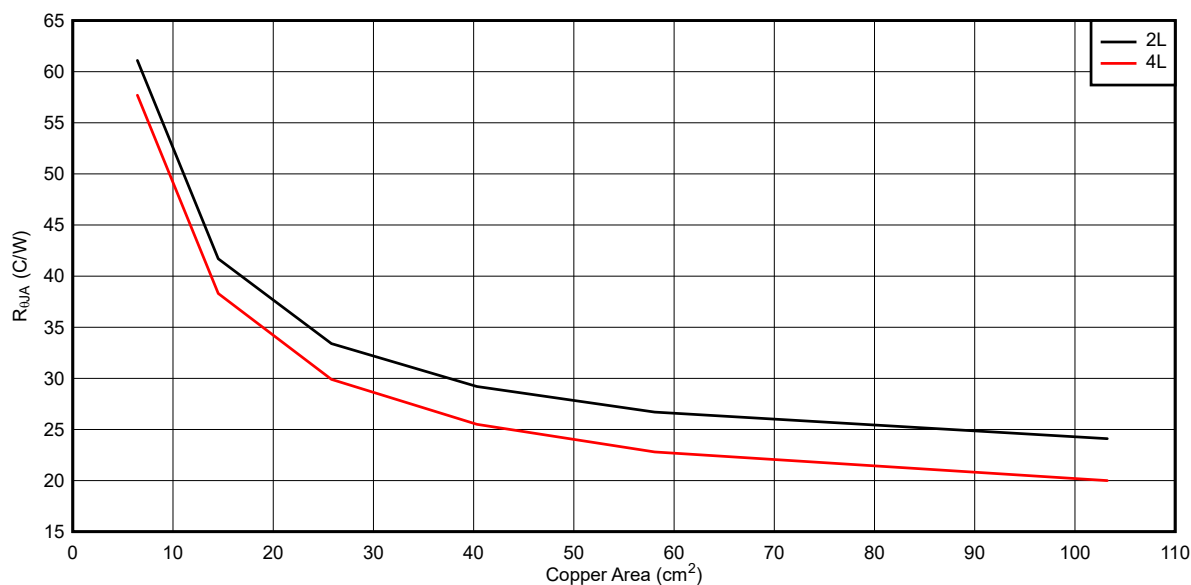
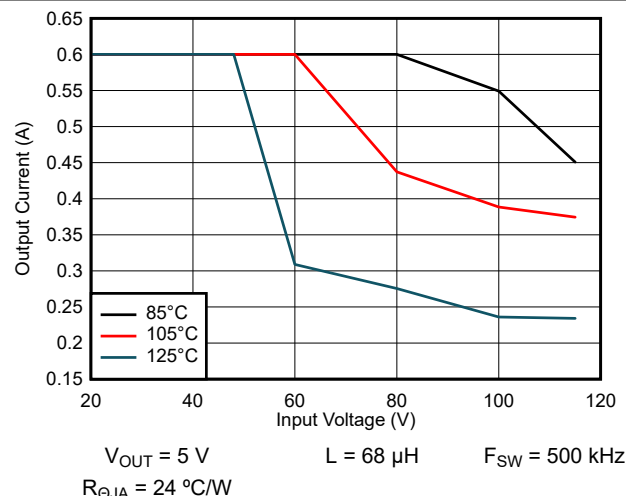
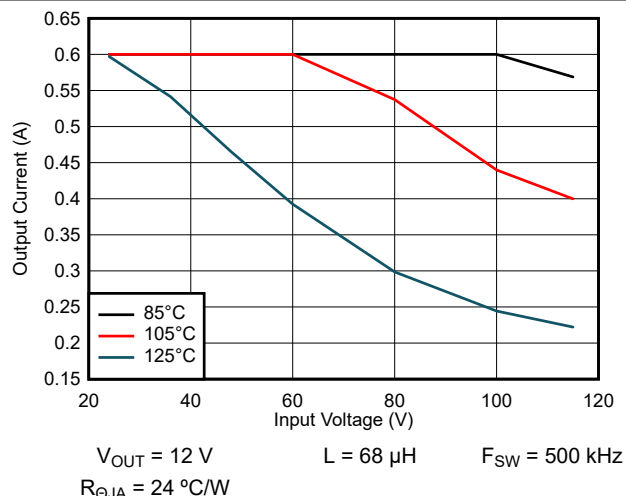

Figure 9-33. Typical $R_{\theta JA}$ Versus Copper Area
Figure 9-34. Maximum Output Current: $V_{OUT} = 5\text{ V}$
Figure 9-35. Maximum Output Current: $V_{OUT} = 12\text{ V}$
The LM516x features a die attach paddle, or "thermal pad" (EP), to provide a place to solder down to the PCB heat-sinking copper. This provides a good heat conduction path from the regulator junction to the heat sink and must be properly soldered to the PCB heat sink copper. Typical examples of $R_{\theta JA}$ can be found in Figure 9-33. The copper area given in the graph is for each layer. The top and bottom layers are 2-oz copper each, while the inner layers are 1 oz.
The data in Figure 9-34 and Figure 9-35 can be used as a guide to determine the maximum output current for a given set of conditions. The particular conditions under which these graphs were taken are indicated in the notes below each graph.
Remember that the data given in Figure 9-33 through Figure 9-35 is for illustration purposes only, and the actual performance in any given application depends on all of the previously mentioned factors.